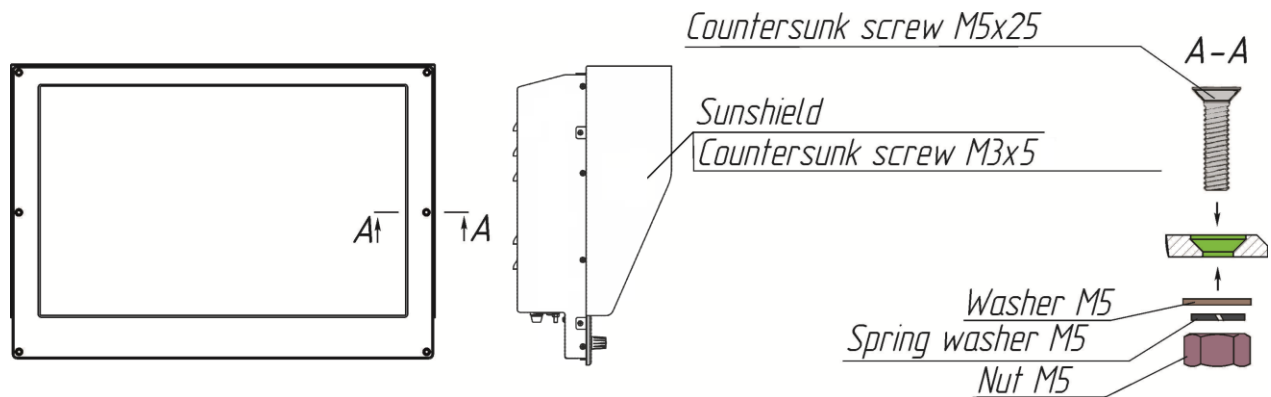

Figure 3 – Panel mounting with outer fastenings
The Product enables different types of mounting depending on the order. For all types of mounting a sunshield is mounted using screws delivered in the mounting kit. For desk-top or wall mounting of the Products with the diagonal more than 21" vibration isolators are provided. Types of mounting are shown in Figures 3 – 7.
1) Panel mounting with outer fastenings (see Figure 3) is the fastening of the product from the inner surface of the remote control using plates, brackets and an installation kit of hardware.